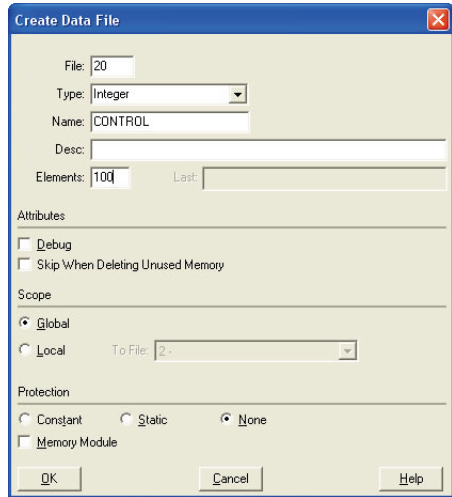

Figure 78: Creating a Control File
- a) Right click Data Files and select New... The "Create Data File" dialog box appears (refer to Figure 78).